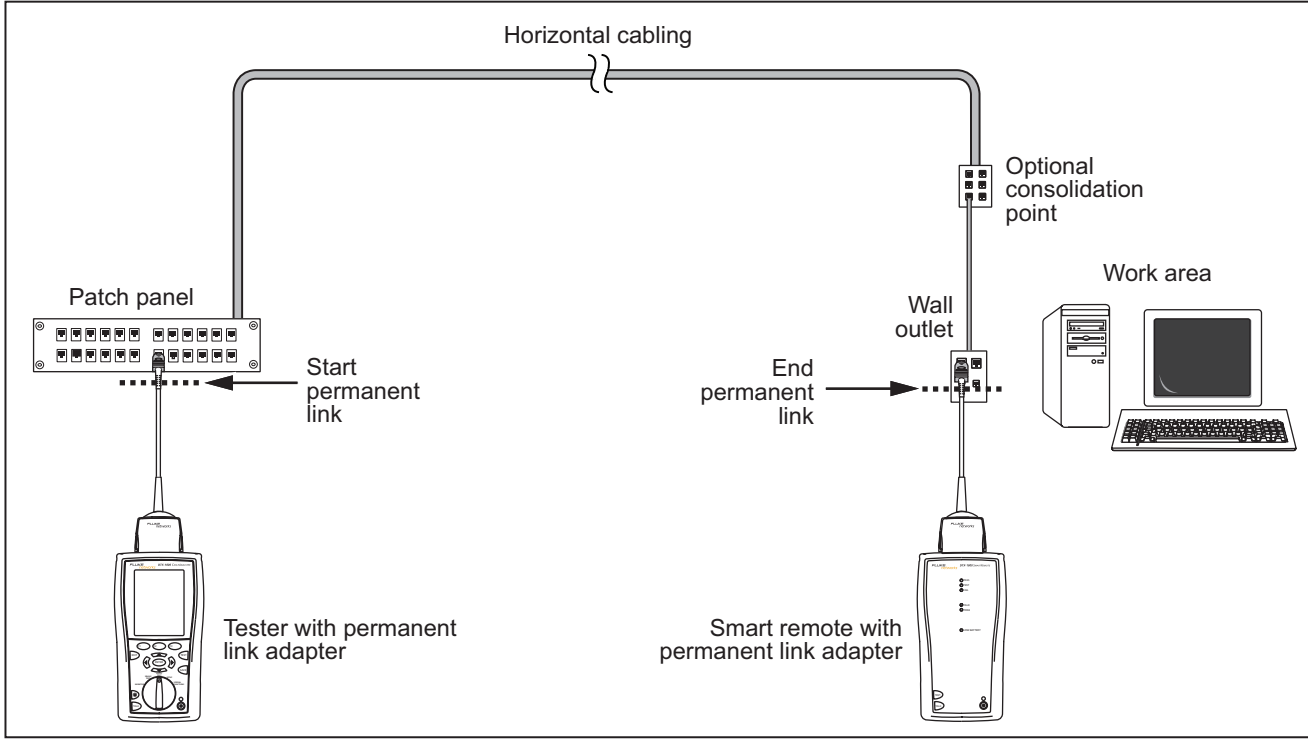
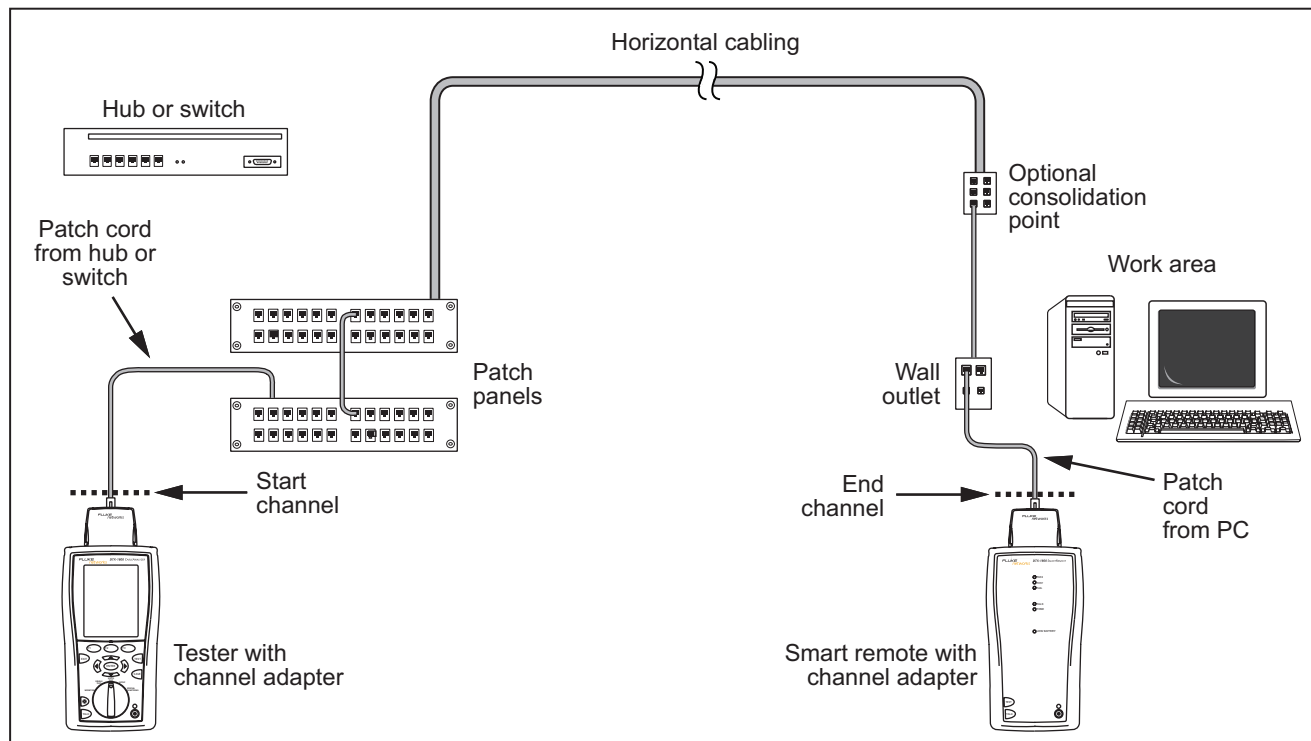

Figure 3-3. Permanent Link Test Connections
Figure 3-4. Channel Test Connections
- 3 Turn the rotary switch to **AUTOTEST** and turn on the smart remote. Connect to the cabling, as shown in Figure 3-3 for a permanent link or Figure 3-4 for a channel.